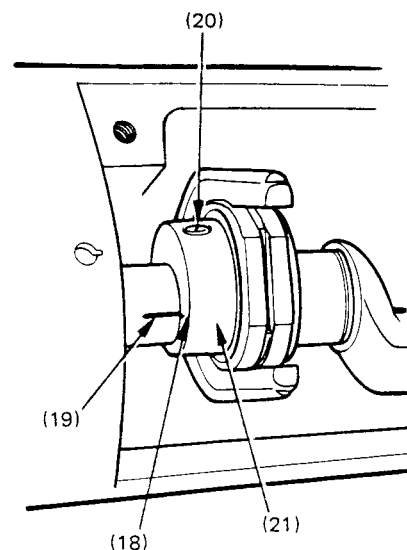

Fig. 14
Before the machine leaves the factory, the feed eccentric is set for average sewing conditions; having the timing mark (18) align with the timing mark (19) provided on the arm shaft. (Fig. 14)
If for any reason it is necessary to alter the timing of feed eccentric, the eccentric should be adjusted and locked in desired setting with two set screws (20), Fig. 14.
3. Loosen two set screws (20) in feed eccentric (21), Fig. 14.
4. Rotate feed eccentric (21) as required to obtain desired timing.
5. Securely tighten set screws (20).